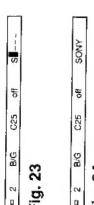

Fig. 23
- 5 Select a letter or number with $\Delta+$ or $\nabla-$ and press OK. The next element will be highlighted. Select other characters in the same way. If you want to leave an element blank, select \cdots and press OK. (See Fig. 23.)